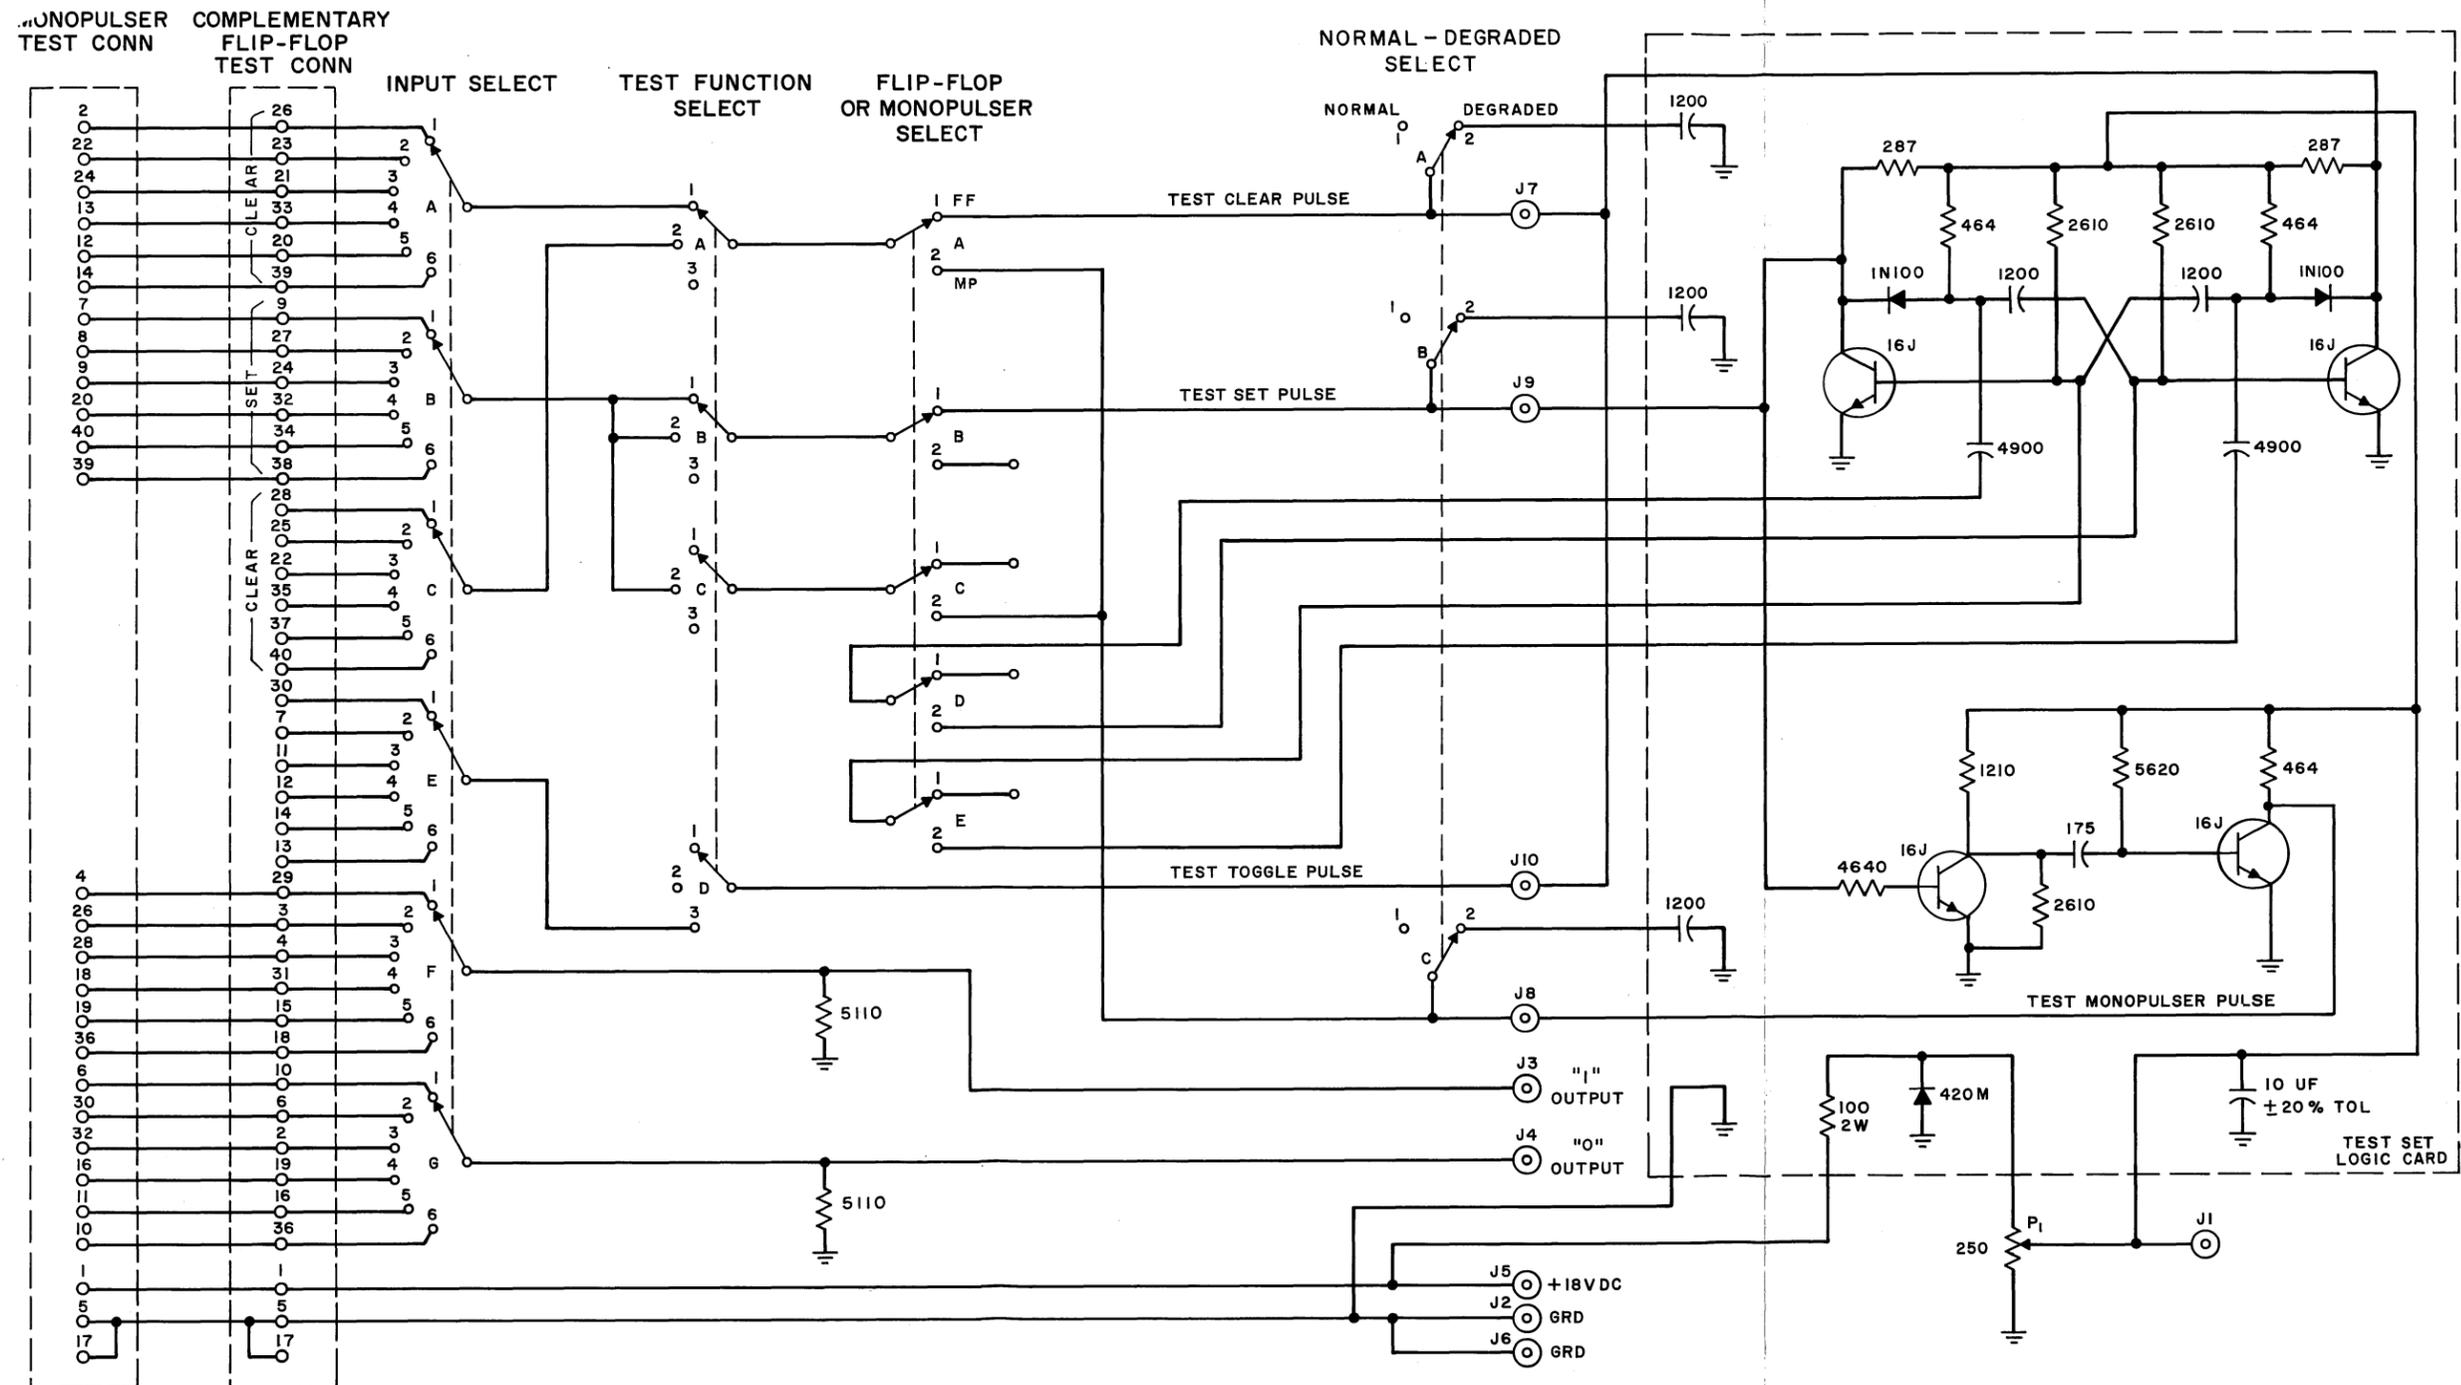

Fig. 4 - (Complementary Flip-Flop Test)
- 1 - CFF test set such as shown in Fig. 4.